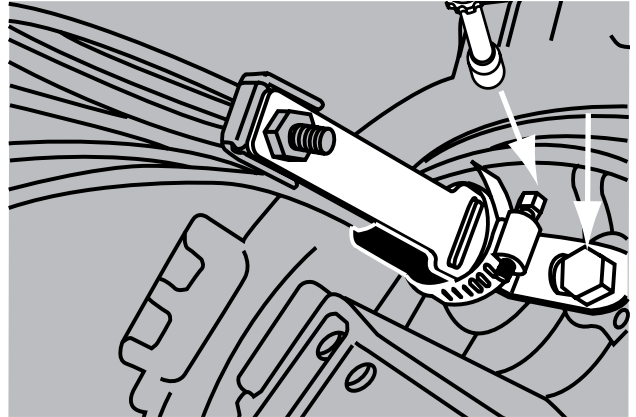

FIGURE 19
19. Maneuver the cable and attachments back to the end plate. With the bolt provided, attach the "L" bracket to the threaded end plate. Insert and fully tighten for creep-in/pull out requirements. (Figure 19)